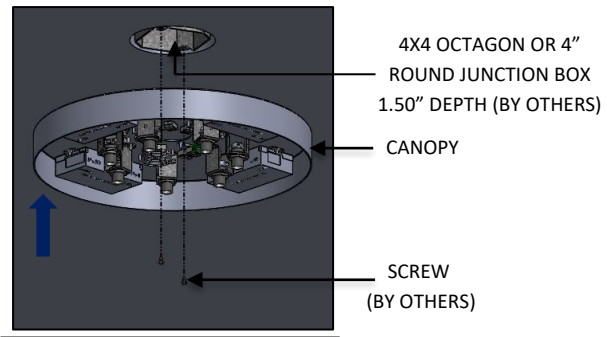

FIG. 6 – CANOPY ASSEMBLY
2. Attach CANOPY to JUNCTION BOX (by other) as shown below in FIG. 6.